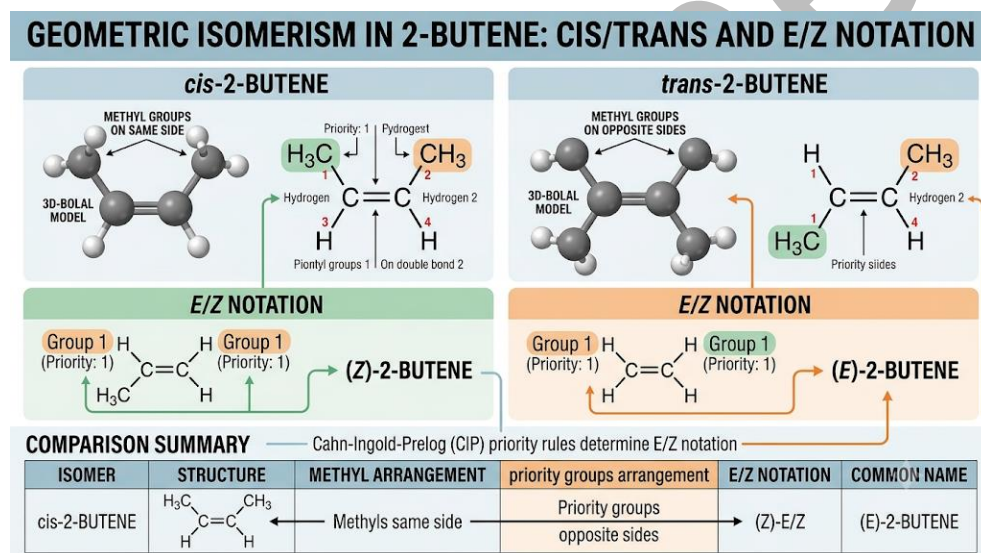

Figure 4.6 Geometrical isomerism in 2-butene.
- Figure 4.6 Geometrical isomerism (OER diagram).